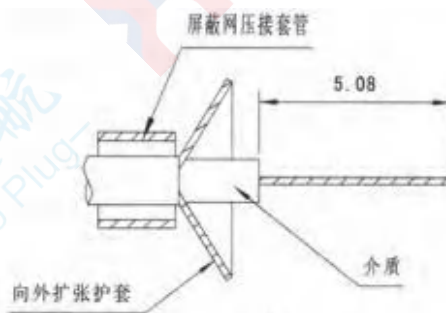

图16
② Pass the shield braid crimp ferrule over the cable jacket as shown in Figure 16.